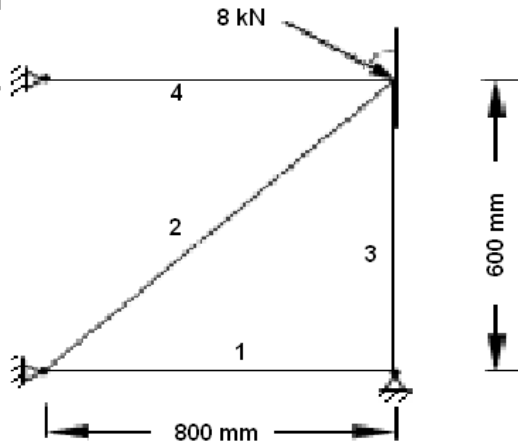

Figure 2
4. Find the nodal displacements and strain in element 2 for the truss shown in figure 2. $E=100$ GPa; $A=500$ mm². [16]